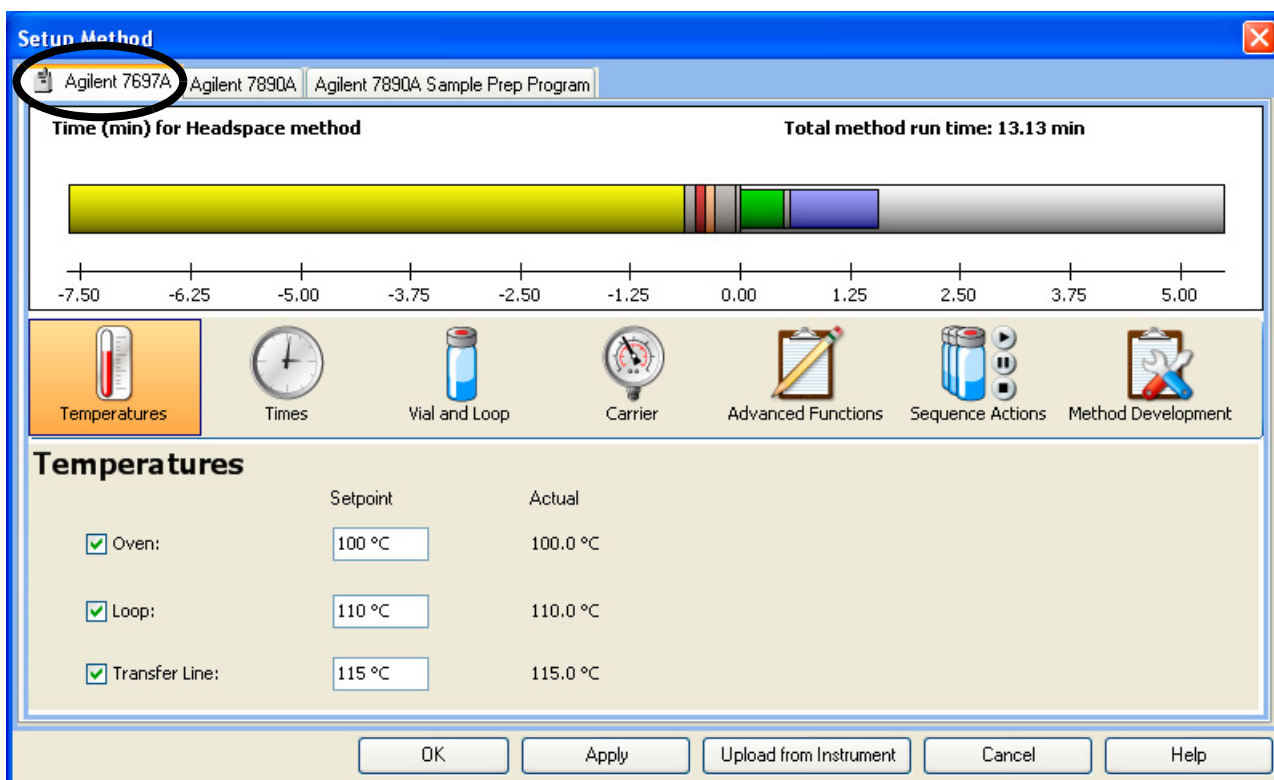

Figure 13 The Agilent 7697A Method Editor
- 2 The Method Editor opens (Figure 13). Select the **Agilent 7697A** tab to open the method parameters for the 7697A Headspace Sampler.